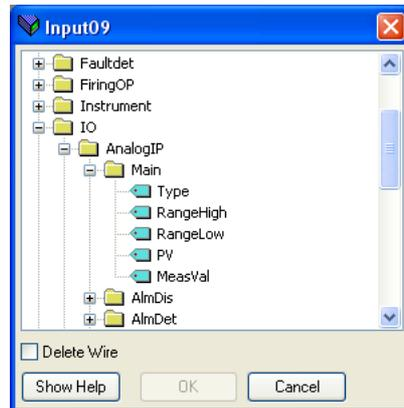

Figure 149 Browser window
1. Double click the next available position in the input or output data table and select the variable to assign to it. A pop-up (Figure 149) provides a browser from which a list of parameters can be opened.